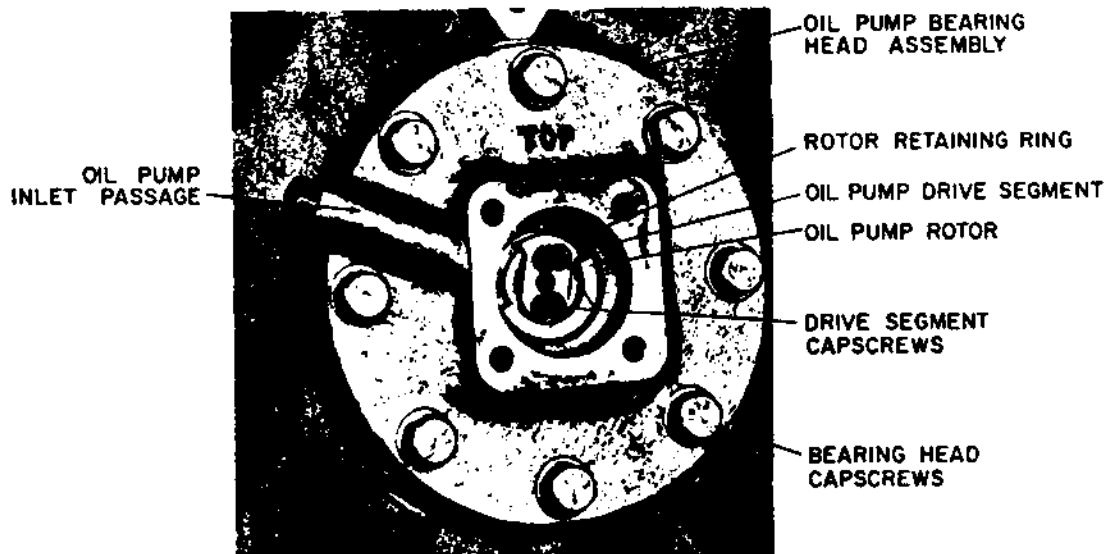

Figure 3-9. Bearing Head with Oil Pump Cover Removed
b. Remove the two drive segment capscrews and lock washers and remove the drive segment. (See figure 3-9.)
d. Install the drive segment with the two capscrews and lock washers. (See figure 3-9, page 3-4.)